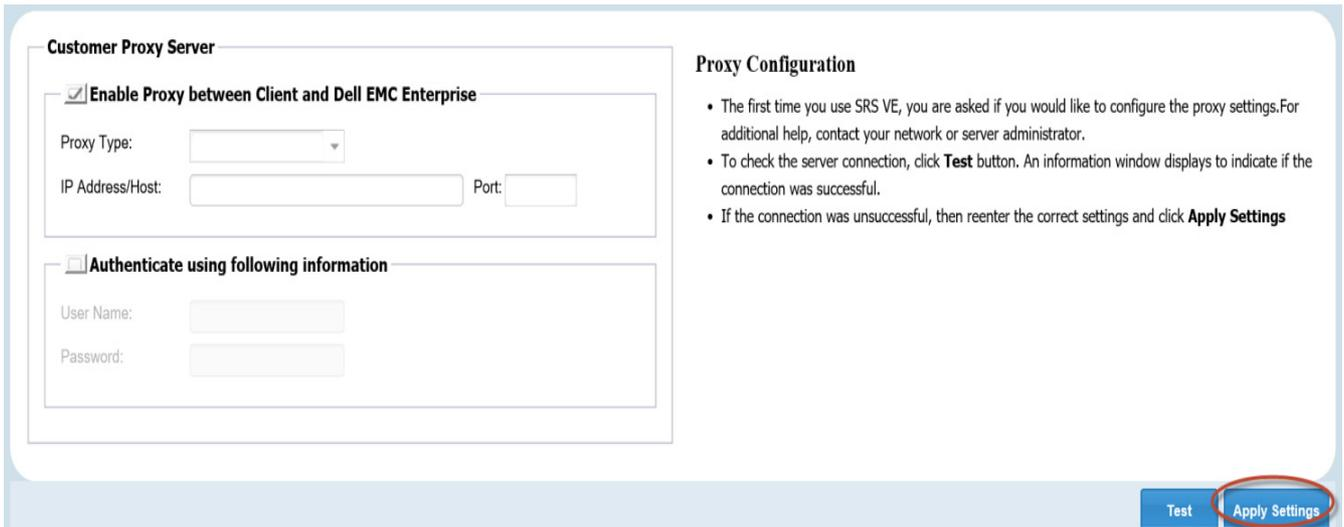

Figure 41 Clicking Apply Settings
- When the test is successful, click **Apply Settings**, as shown in Figure 41 on page 43. A confirmation message appears.